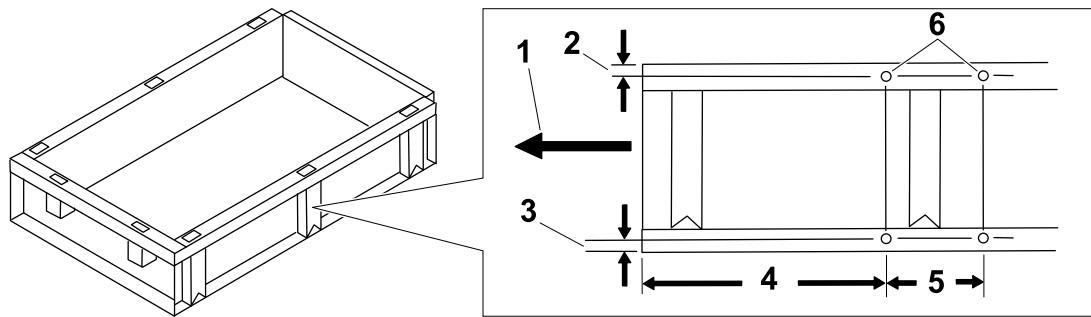

Figure 1
1. Locate and mark the hole location on the bed (Figure 1).
2. Use a 13/32 inch drill bit and drill a hole at the locations that you marked (Figure 1).